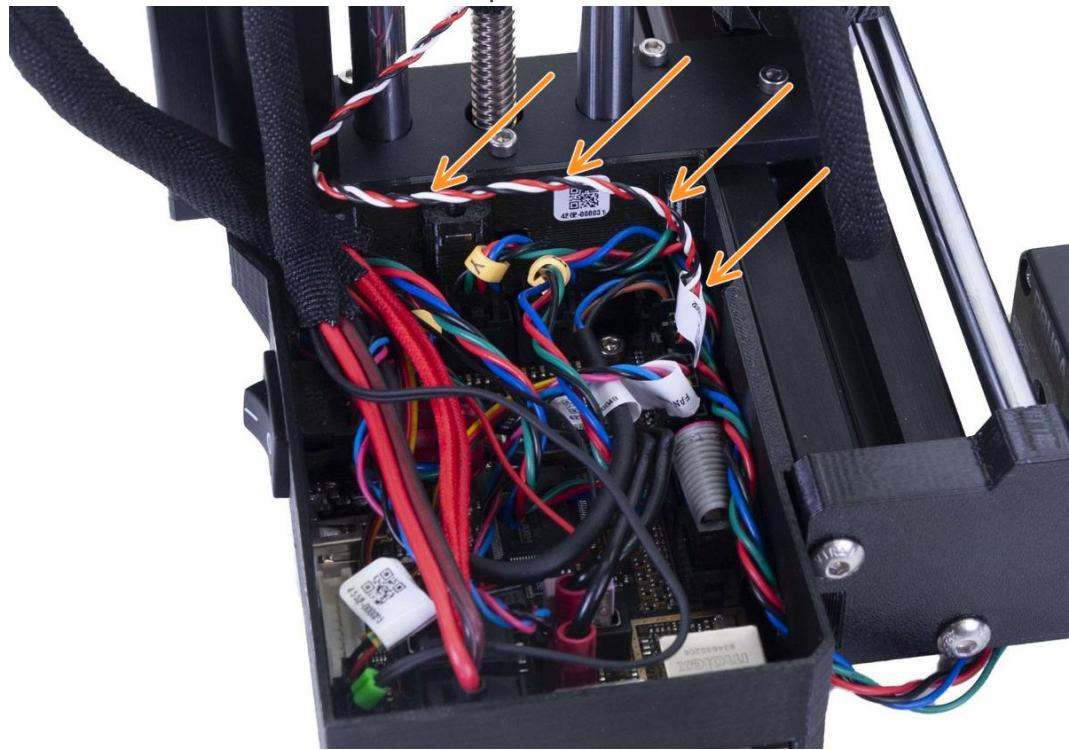

Figure 5.2.3
**B:** As shown in Figure 5.2.3. Arrange the cable according to the picture. Keep in mind